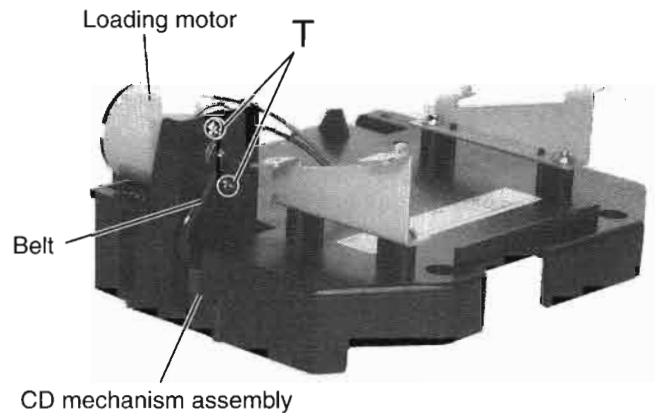

Fig.19
■ Loading motor (Refer to Fig. 19.)